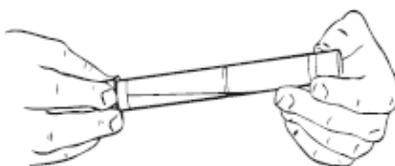

Figure 6: Rinsing the Collector tube walls
12) For each collector tube, hold the tube horizontally and rinse its walls with the distillate in order to homogenize it. Slowly roll the distillate around in the tube to gather all droplets clinging to the tube walls into the bulk of the distillate (Figure 6). Then, slowly return the collector tube to an upright position so that the **D** end is up. Stubborn drops will often fall into the **M** end when the tube is flicked with your finger or shaken down like a thermometer in a whipping motion.